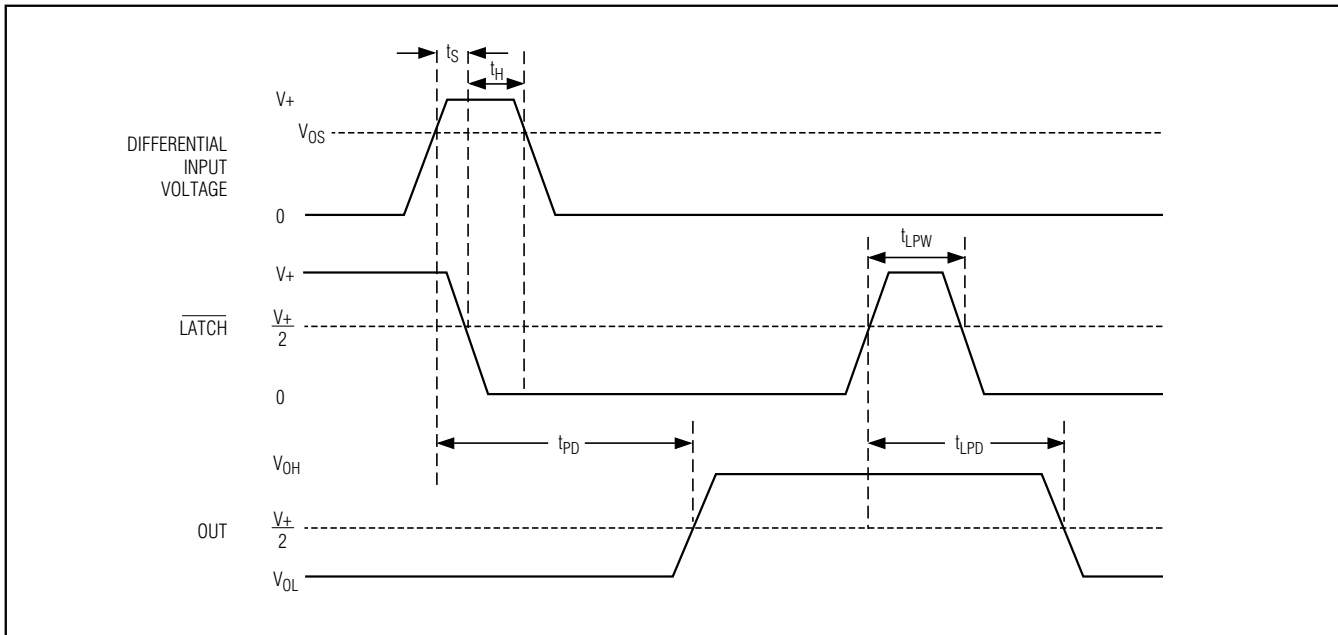

Figure 2. MAX941 Timing Diagram with Latch Operator
- Note 8:** Parameter is guaranteed by design and specified with VOD = 5mV and CLOAD = 15pF in parallel with 400μA of sink or source current. VOS is added to the overdrive voltage for low values of overdrive (see Figure 2).
- Note 12:** Applies to the MAX941 only. Comparator is active with  $\overline{\text{LATCH}}$  pin driven high and is latched with  $\overline{\text{LATCH}}$  pin driven low (see Figure 2).
The MAX941 includes an internal latch that allows storage of comparison results. The LATCH pin has a high input impedance. If LATCH is high, the latch is transparent (i.e., the comparator operates as though the latch is not present). The comparator's output state is stored when LATCH is pulled low. All timing constraints must be met when using the latch function (Figure 2).